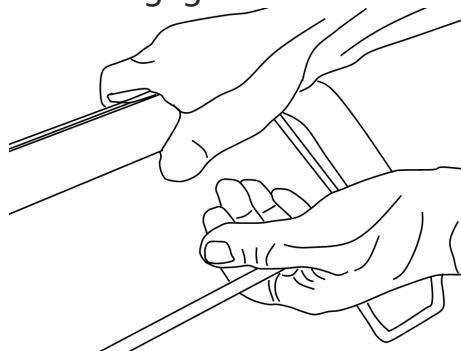

Fig. 13
- 1) Pull the drive bar towards the handle to engage the wheels (Fig. 13).
To minimise possible risk of accidents, the engine of your lawnmower is coupled to an operator control. When the operator control lever is released, it returns immediately to its rest position and the engine is automatically turned off.(Fig.13)